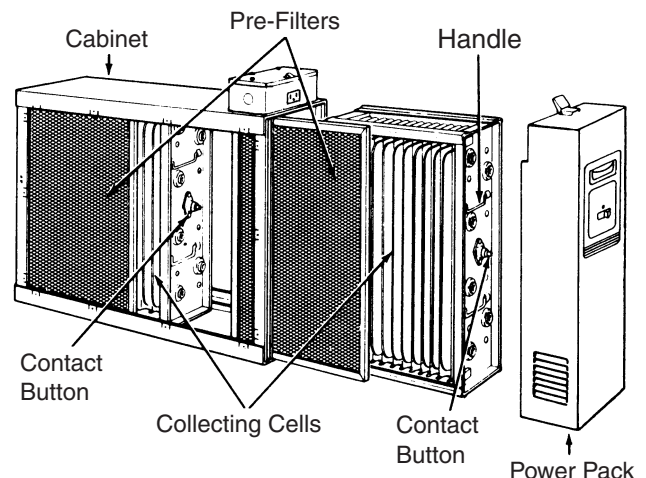

Figure 19
10. **With the cabinet Installed**, reinstall pre-filter(s) and collecting cell(s) (Figure 19).